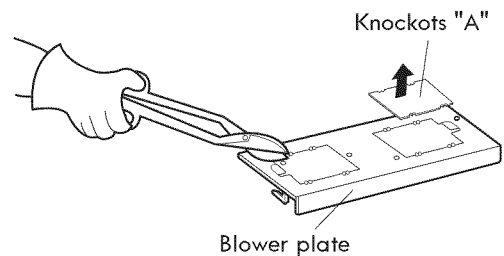

Figure 20
5. Use side cutters or tin snips to cut and remove knockouts "A" from blower plate. Discard knockouts. Be careful not to distort the plate. See Figure 20.